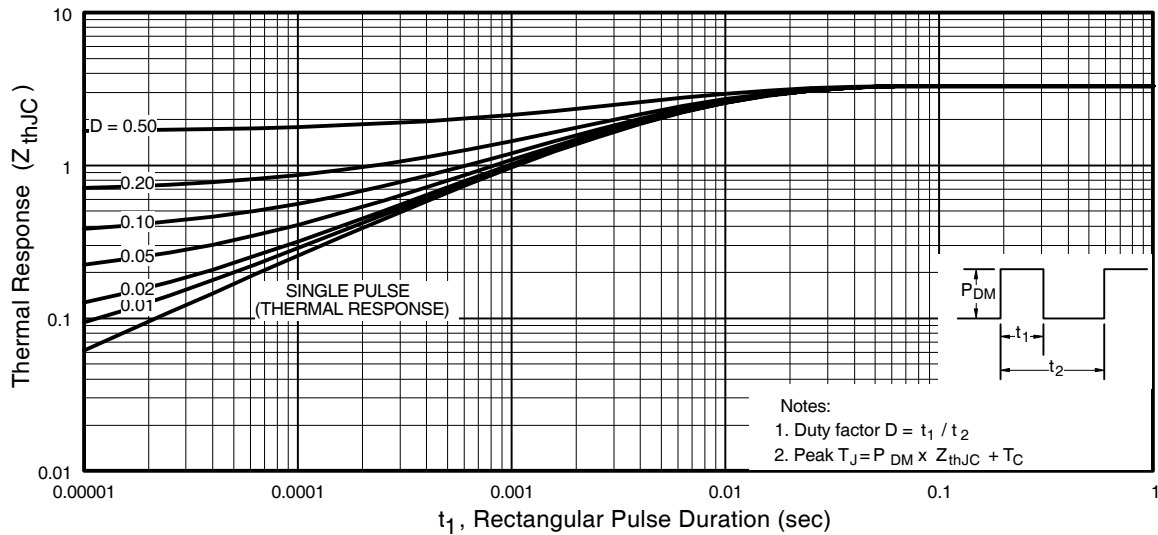

Fig 11. Maximum Effective Transient Thermal Impedance, Junction-to-Case
- ① Repetitive rating; pulse width limited by max. junction temperature. (See fig. 11)
- ② Starting $T_J = 25^\circ\text{C}$, $L = 1.0\text{mH}$